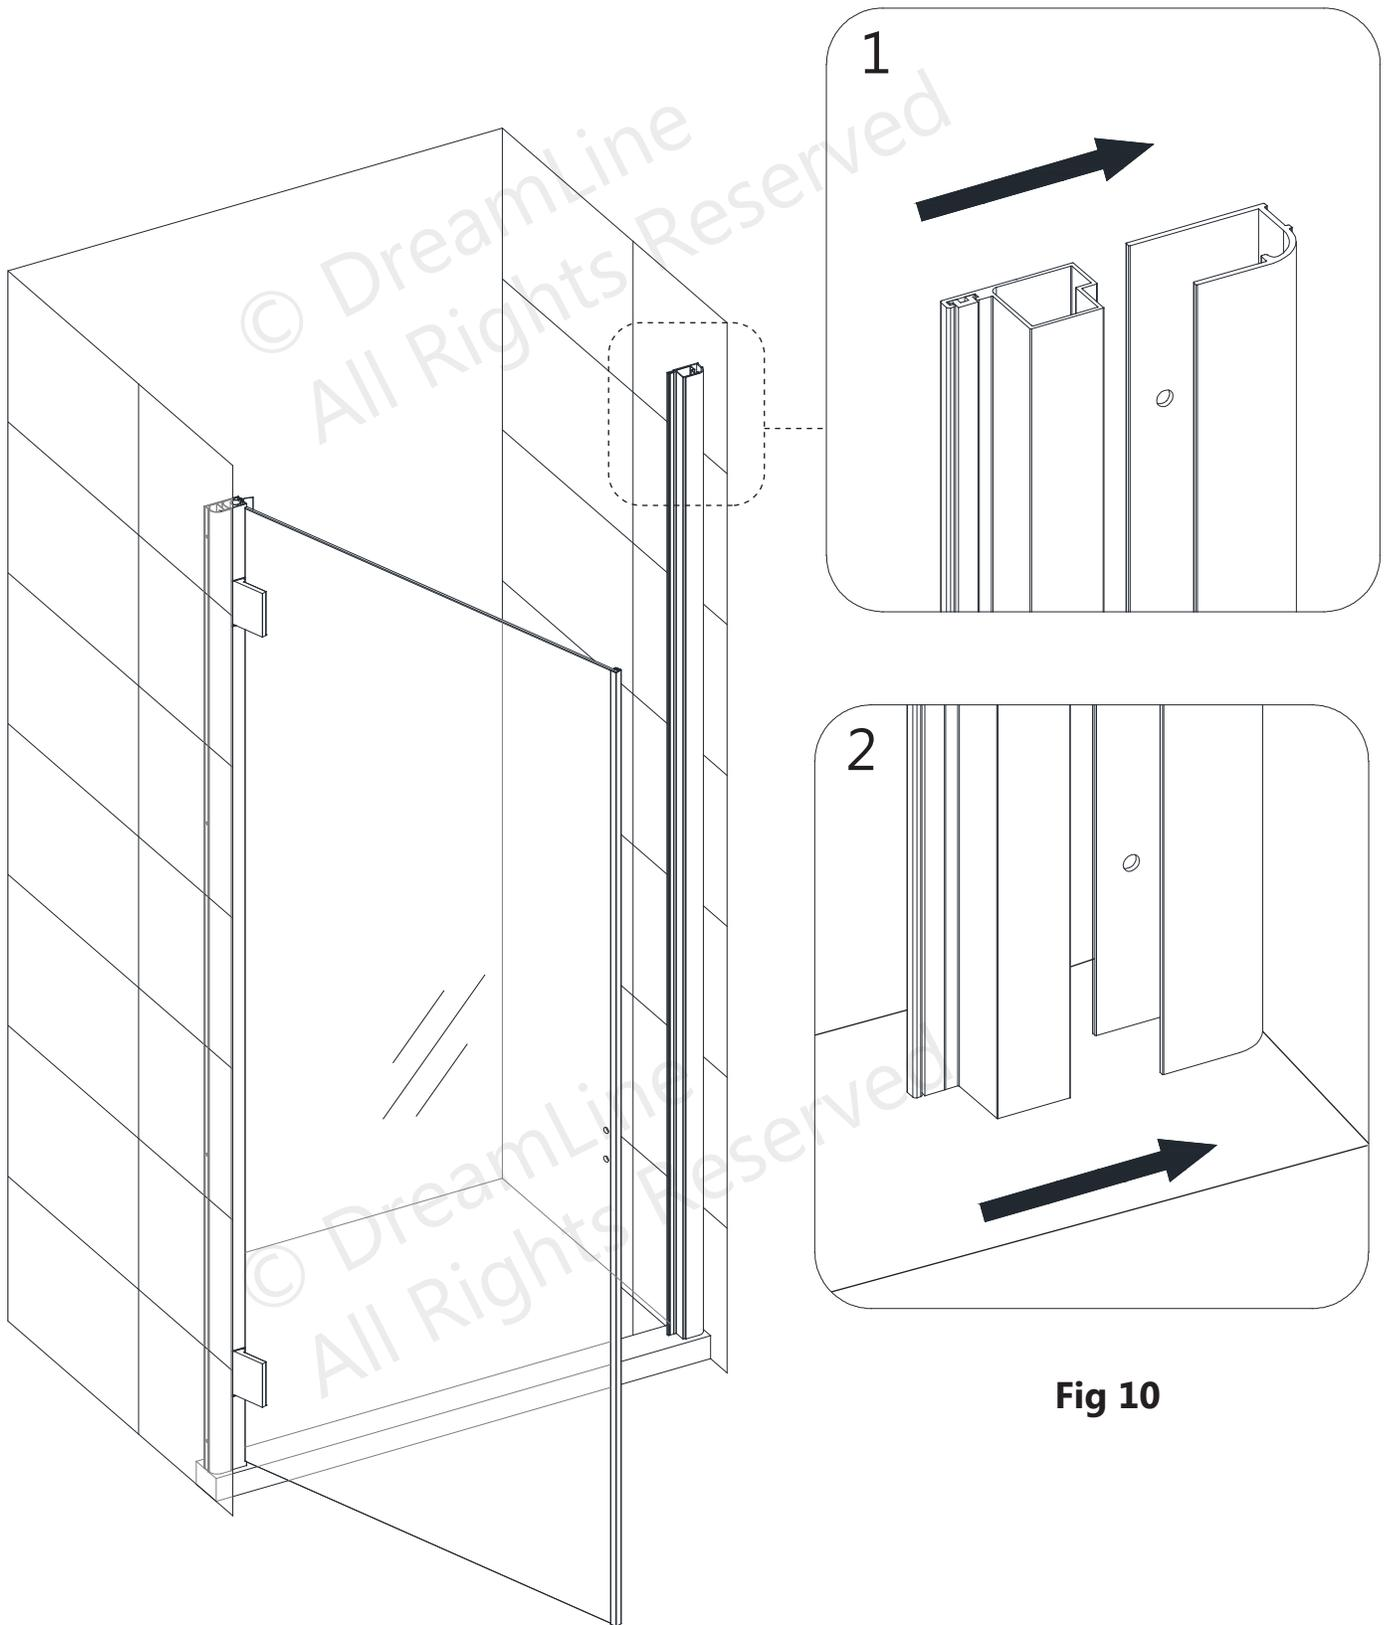

Fig 10
10. Insert the **Strike Profile (#09)** back into the installed **Wall Profile (#10)**, and adjust the **Strike Profile (#09)** as necessary to line up the magnetic seals. (**Fig 10**)